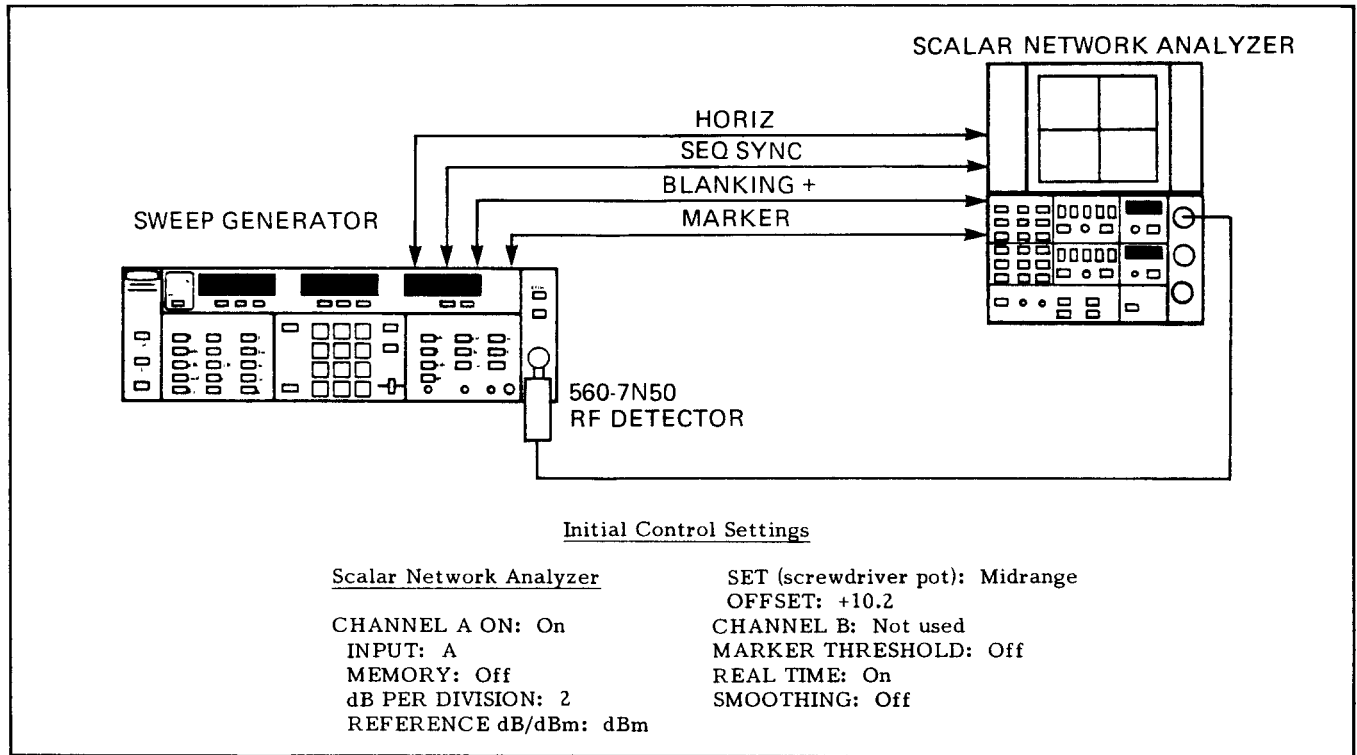

Figure 5-27. Test Equipment Setup for Tracking Filter Adjustments
- a. Connect test equipment as shown in Figure 5-27, and turn the equipment on.